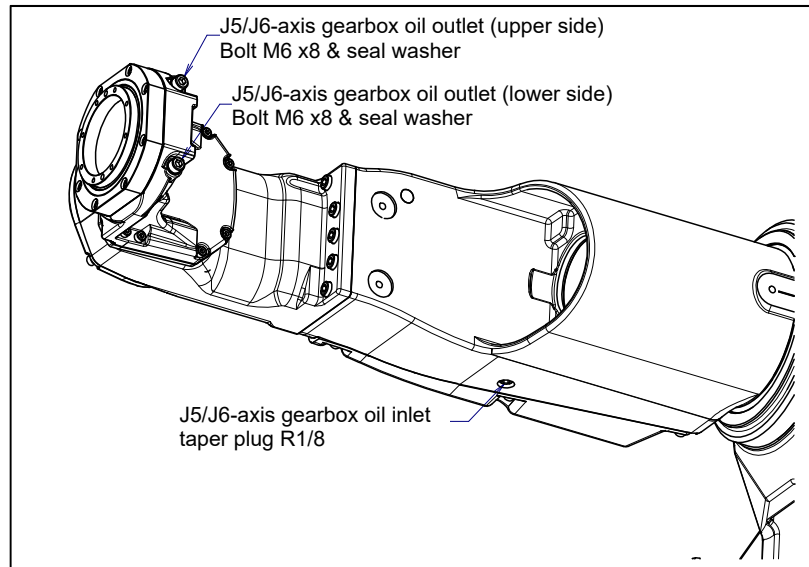

Fig. 7.3.2.7 (a) Oil inlet and outlet
- 4 Remove two bolts and washer of oil outlet. Then remove the taper plug of the oil inlet See Fig.7.3.2.7 (a) In this time, if you remove bolt of oil inlet firstly, you can prevent spilling oil on surroundings.